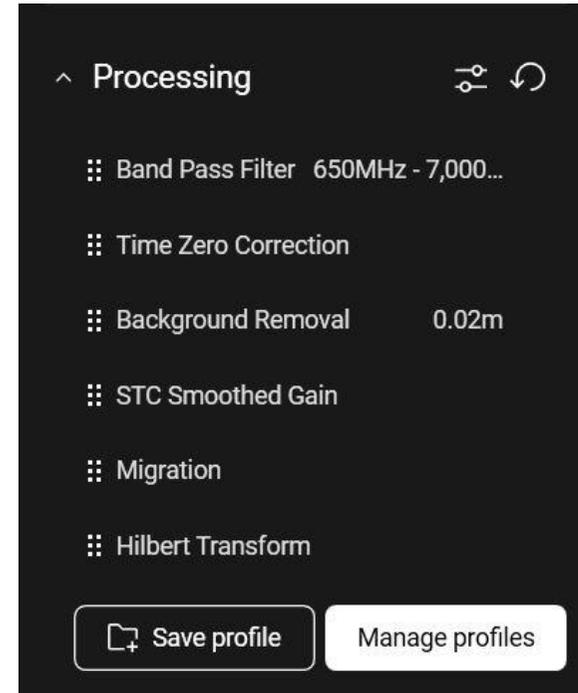

Fig. 31 Processing Customization Menu
c. **Processing:** Including change of default filter value, enabling/disabling a filter from standard processing macro () , or Saving a Macro () , (Fig. 31),